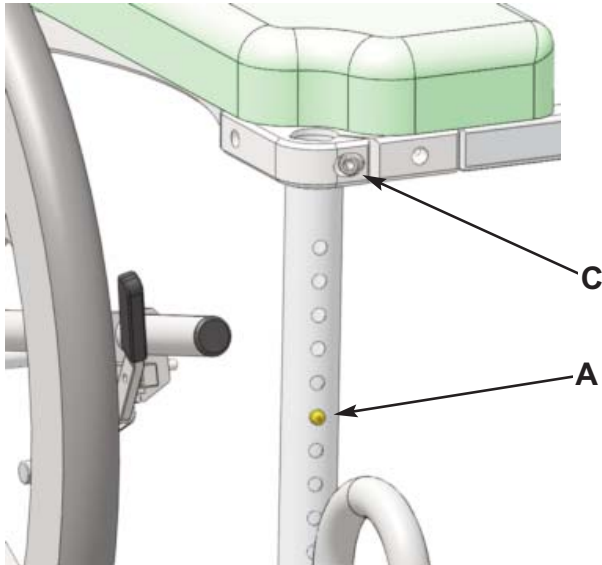

Figure 21
- 5) Remove the two axle blocks from the 10-Hole offset outer legs and re-install onto the two 11-Hole outer legs (Refer to Figure 21 on Page 5).
**A Leg Height Adjustment:** When making height adjustments to any of the legs, make sure that the brass buttons are fully engaged into the outer legs. If pushed too hard the button could become stuck inside the inner leg (Contact NuprodX, Inc. if this occurs). Leg height adjustment should only be made before transferring the user into the chair (Refer to Figure 21).
**C Fasteners:** Over time the screws and washers on the chair may become loose. It is very important that these are checked and securely tightened before each use. Failure to do so could cause a part to dislodge from the chair (Refer to Figure 21).